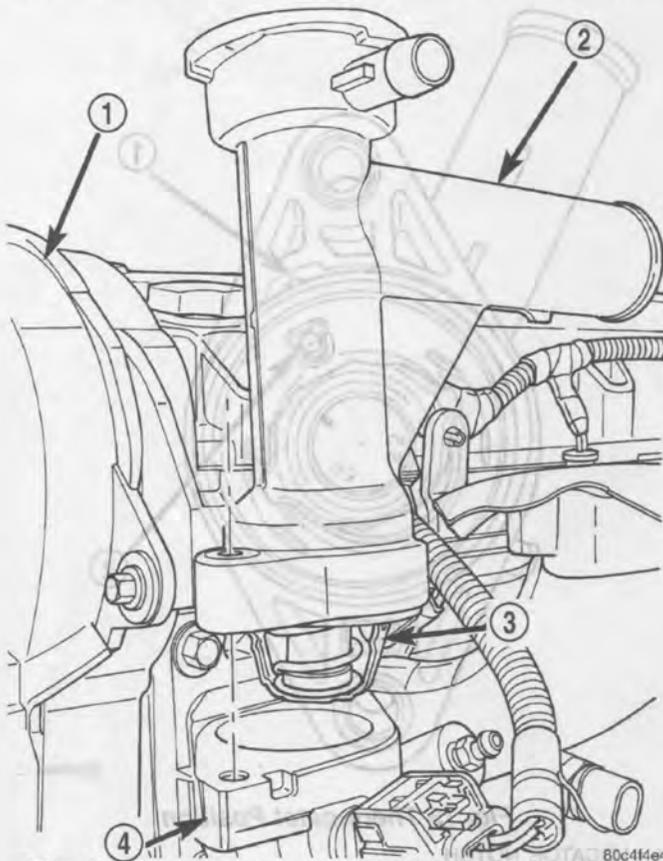

Fig. 12 Thermostat and Coolant Outlet Connector
- (1) Drain cooling system below thermostat housing level.
- (2) Disconnect engine coolant temperature sensor.
- (3) Disconnect heater supply hose.
- (4) Remove housing attaching bolts (Fig. 12).
- (5) Remove housing, gasket and thermostat (Fig. 12).